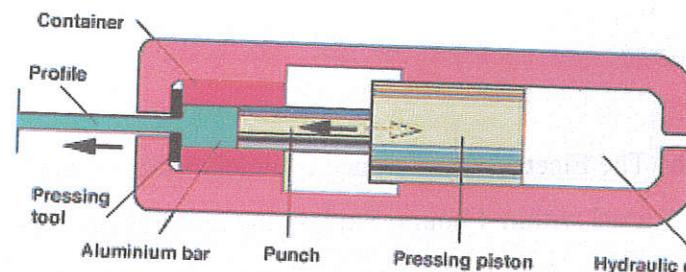

Figure 3 (a) Metal Work Processes / Gambarajah 3 (a): Proses Kerja Logam
(a) Figure 3 (a) below shows one of the Metal Work processes.
- i. Identify the metal work process as shown in Figure 3 (a).
- ii. Explain the process shown in Figure 3(a).